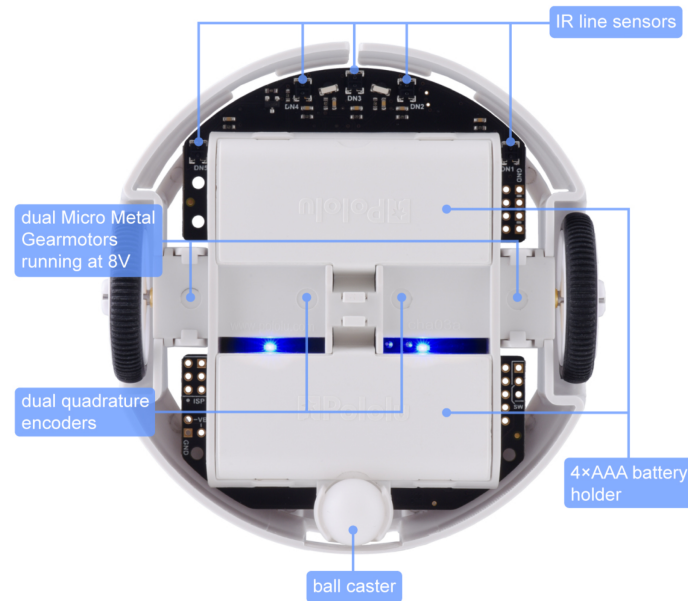

Figure 1.5: Underneath view of the 3pi+ robot. The IR line sensors are placed at the front.
The 3pi+ line sensor array is a separate board that attaches to the main underneath board, placed in front of the robot as shown in Figure 1.5. The board features five line sensors connected to the microcontroller. The five line sensors face downward and can help the 3pi+ robot distinguish a non-reflective (black) line on a reflective (white) surface. Each reflectance sensor consists of a down-facing analog infrared (IR) emitter LED (Light-Emitting Diode) paired with a phototransistor that can detect reflected IR light from the LED. Three of the five sensors are placed in the middle of the board at gaps of about 10 mm and the last two are situated at the far end of both sides such that the total sensor coverage is about 60 mm.